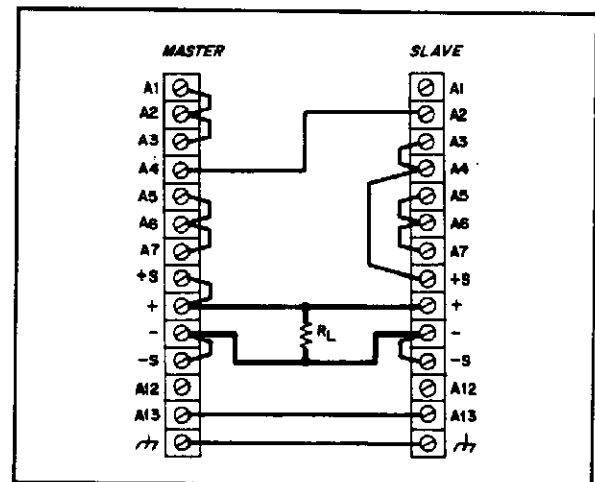

Figure 3-10. Auto-Parallel Operation of Two Units
**3-49** Figure 3-10 shows the interconnections required to auto-parallel two units. This mode of operation provides a greater current capacity than can be obtained from a single supply while maintaining nearly equal load sharing among the paralleled supplies under all load conditions. Only supplies having the same model numbers can be used in auto-parallel unless the supplies all have equal current ratings and the voltage drop across the monitoring resistor in each supply is equal at maximum rated current.
**3-50 Additional Slave.** One additional slave supply can be added in parallel to the master/slave combination shown in Figure 3-10. All connections between the master and slave number one are duplicated between slave number one and the added supply (slave number two). The remaining terminals on slave number two should be strapped the same as those shown for slave number one on Figure 3-10.
**3-52 Overvoltage Protection in Auto-Parallel.** The interconnections shown in Figure 3-10 between the external crowbar trigger terminals on the master and on the slave(s) must be made to permit the overvoltage crowbar in the master to fire the SCRs in the master and the slave(s) if an overvoltage condition occurs. Be sure to connect them with the correct polarity shown. Set the slave supply overvoltage control(s) to maximum (clockwise) to disable them, and adjust the overvoltage trip point at the master supply.